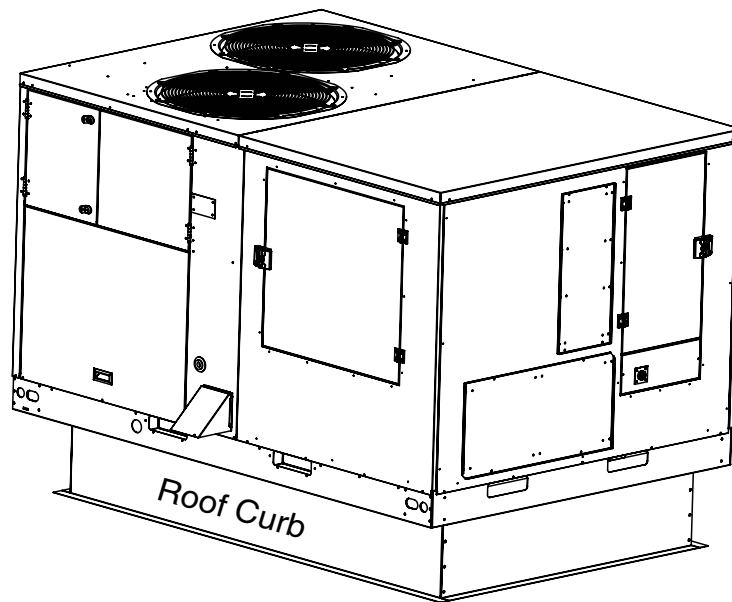

Figure 10. Roof Curb
- The appropriate accessory roof curb (see Figure 10) must be installed prior to unit installation. Refer to the available roof curb height offerings in the technical sales literature. The roof curb must be square and level to ensure proper condensate drainage. Please follow all instructions provided with the kit.